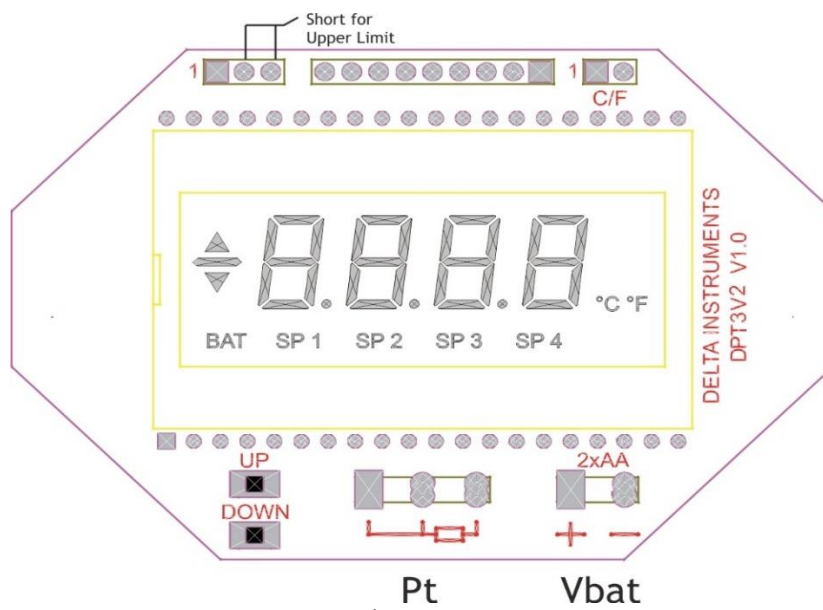

Figure 2
5. Make a short circuit as it is shown on the Figure 2 and wait until the symbols SP2 appear on the display.